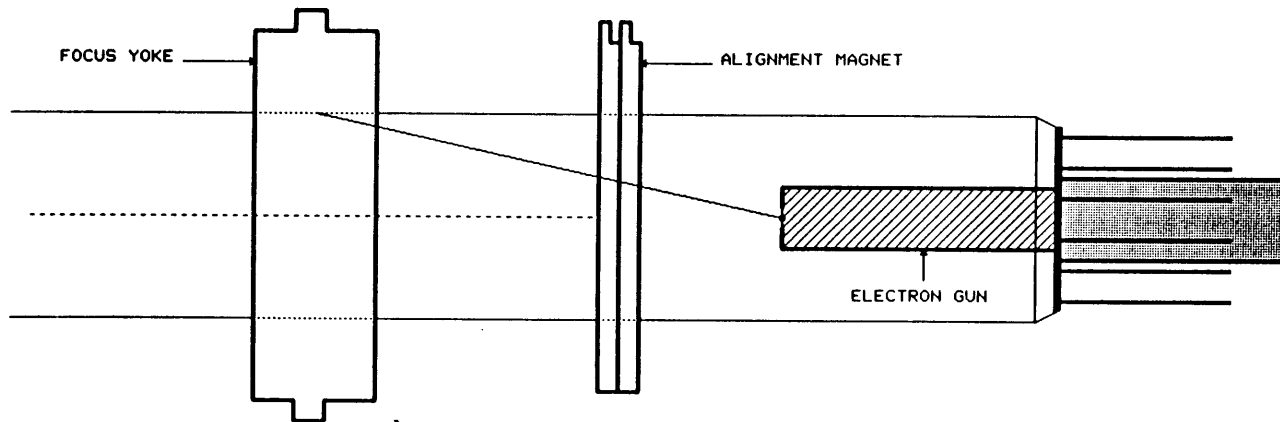

FIG. 2
(3). The Alignment Magnet which consists of two bipolar magnets that align the magnetic flux axis of the focus magnet to the electron beam axis from the electron gun of the projection tube. In Fig. 2, the dotted line denotes the axis of magnetic flux of the focusing yoke and the strait angle line denotes the axis of electron beam injected from the electron gun. In the case of Fig. 2, if no correction from the Alignment Magnet exists, the electron beam will be distorted because the beam does not run through the center of the Focusing Yoke/Magnet. That is why the alignment magnet corrects the beam track to get it on the Focus Magnet center axis. Therefore, the track of electron beams is corrected by bending with the alignment magnet so that it is placed on the dotted line.